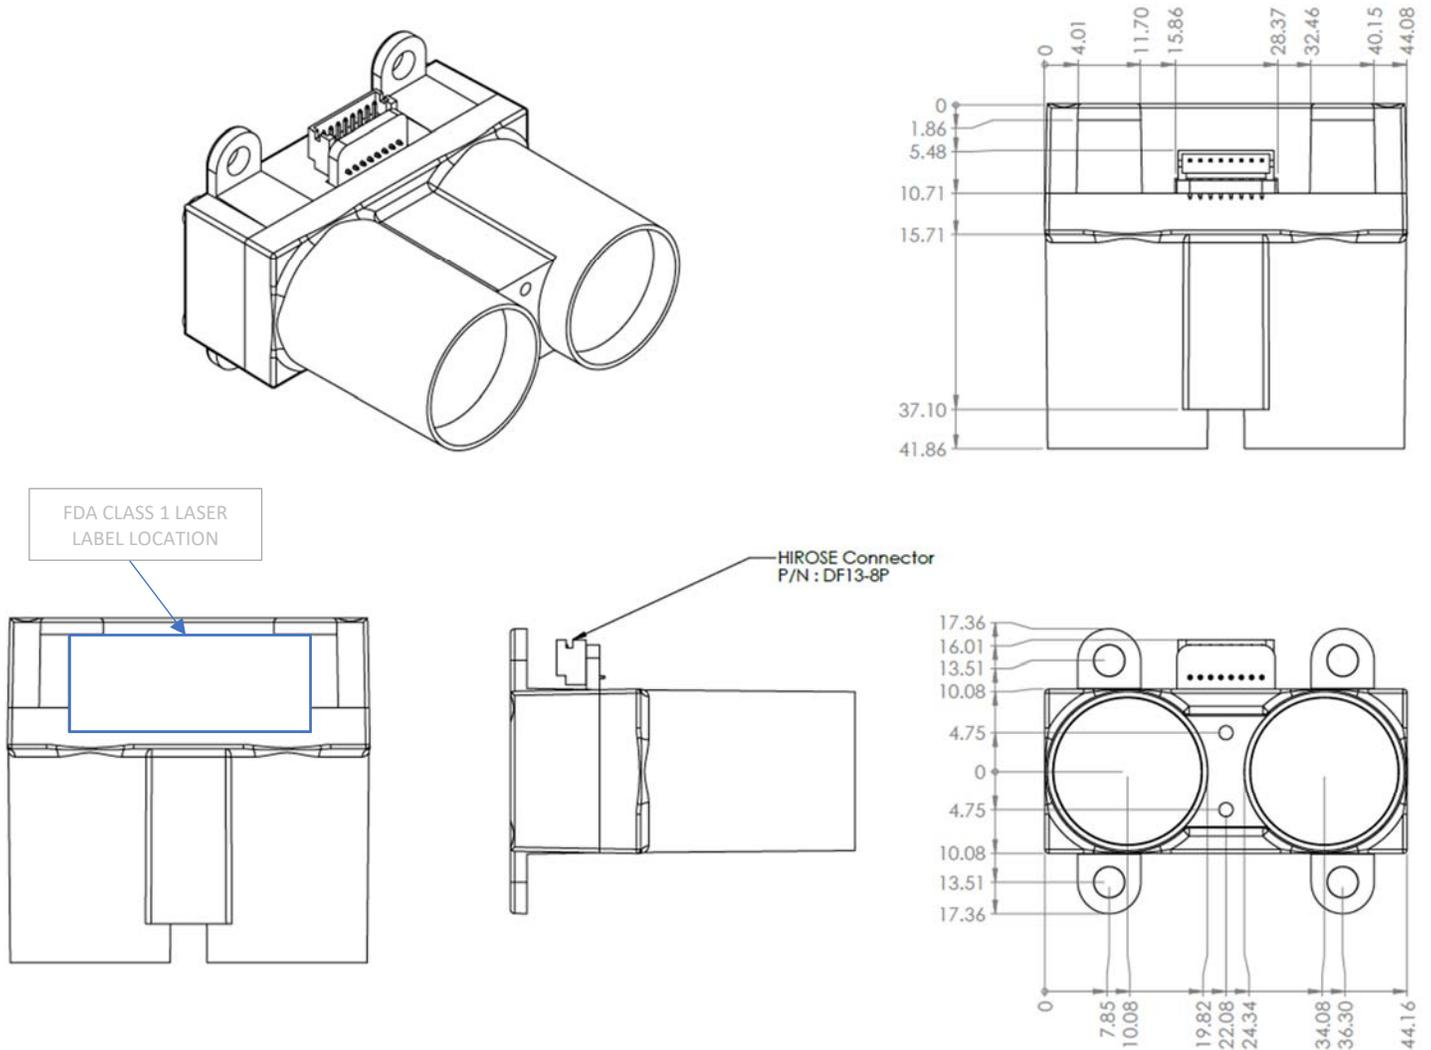
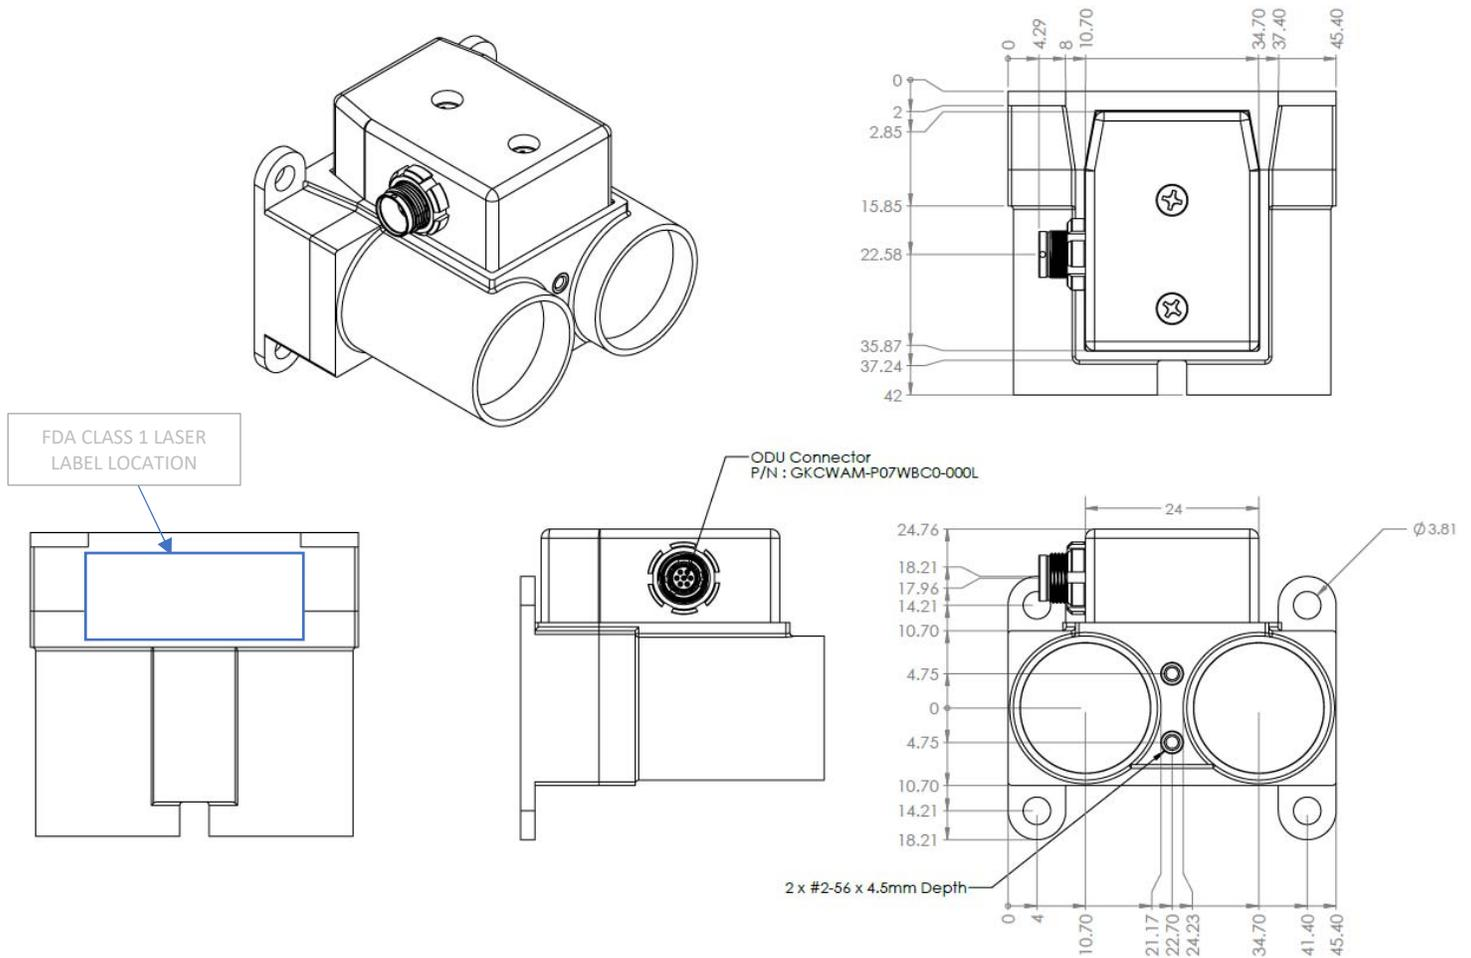

Figure 3 - Exterior and Mounting of the WASP-200 LRF (CU1)
Figure 4 - Exterior and mounting dimensions of the Ruggedized WASP-200 LRF (MU1 and MC1)
**NOTE:** This Laser Product is designated as Class 1 during all aspects of operation. The U.S. FDA Laser Classification Label is shown below in Figure 2. The placement of the labels is shown in Figure 3 and Figure 4.
The exterior dimensions and mounting details of the WASP-200 LRF are shown in Figure 3 for the commercial system and Figure 4 for the ruggedized system. All dimensions are in millimeters. Contact Attollo Engineering for a 3D solid model.